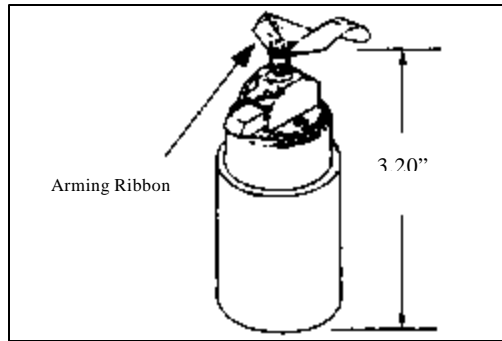

Figure 34. DP submunition.
- (5) The DP submunition in Figure 34 has a shaped charge for penetrating hard targets but is also used against personnel. These submunitions are delivered by artillery or rockets. The arming ribbon serves two purposes: it not only arms the fuze as the submunition comes down, but it also stabilizes the submunition so that it hits the target straight on.